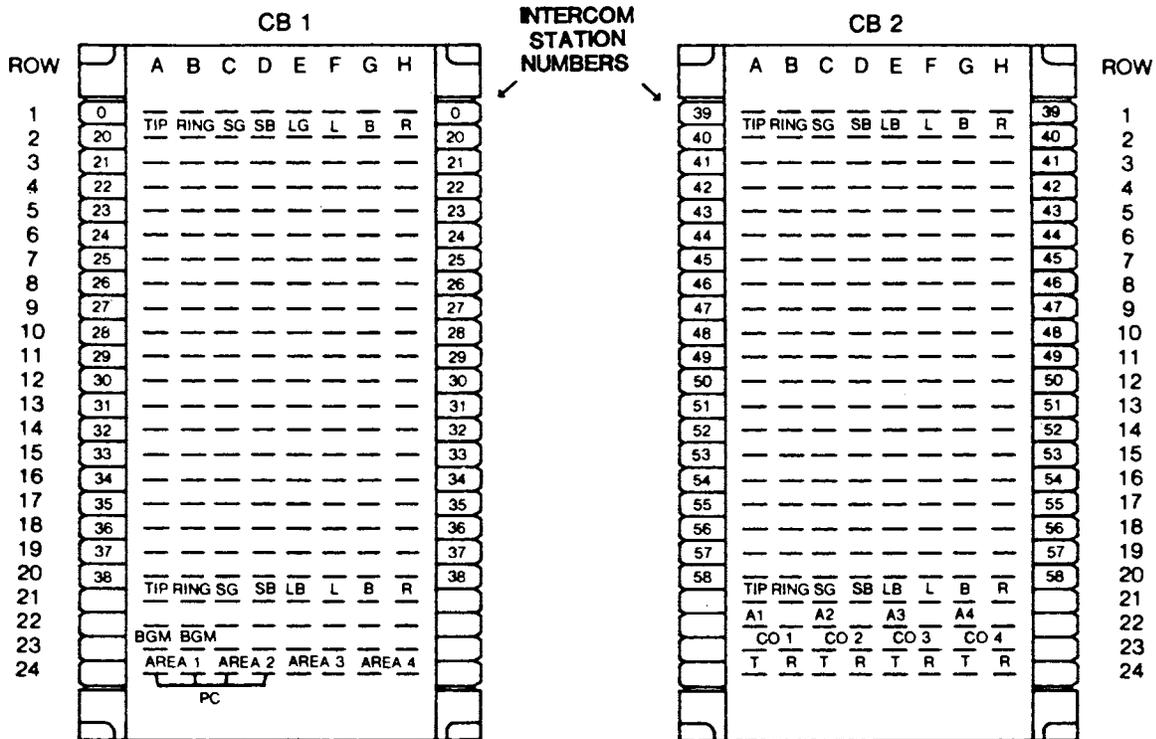

Figure 3—Station and Terminal Assignments of KL-30 Connecting Blocks.
- 3.04 Connect the speakers to connecting block terminals above labels AREA 1, AREA 2, AREA 3, and AREA 4. See Figure 3. Use speakers rated at 5 watts or more. Note that two wires are necessary; the return connects to B battery, not ground.
- 3.05 Connect wires from background music source to terminals above label BGM. See Figure 3.